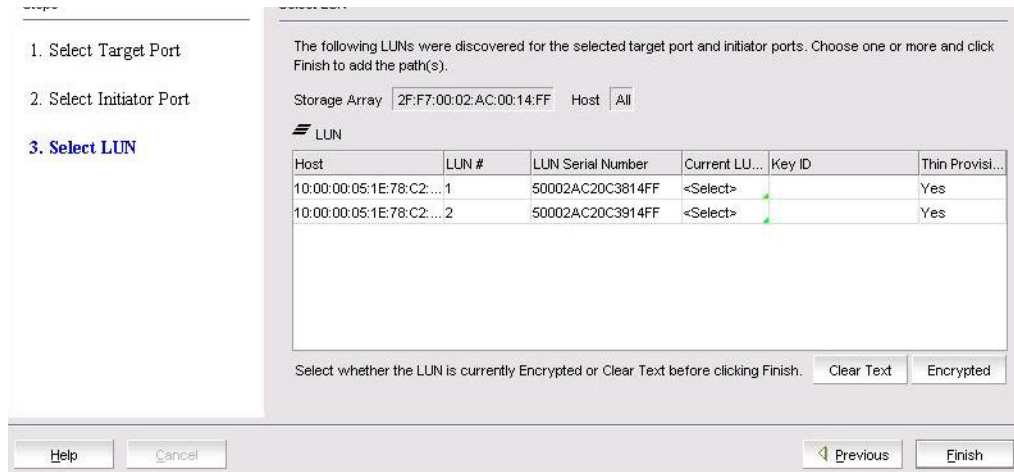

FIGURE 310 Select LUN dialog box
- The **Select LUN** dialog box displays, which lists discovered LUNs that are available. (Refer to Figure 310.)